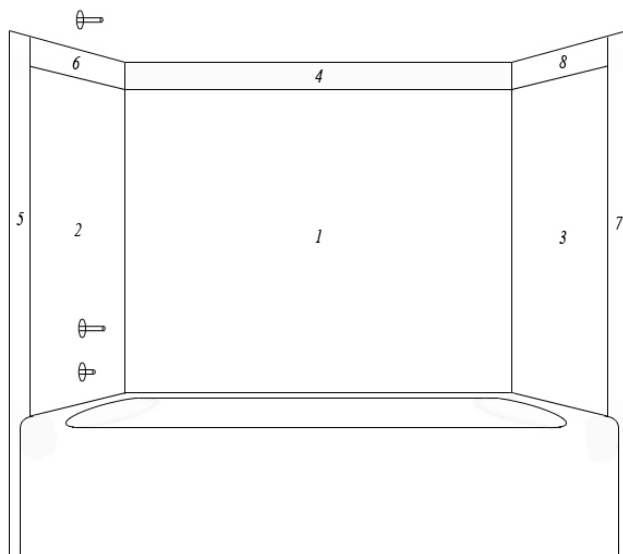

Figure 1.
- To install the remaining vertical leg trim (item 7) and horizontal trim (item 8) (refer to *Figure 1*) on the side opposite the water wall, follow the procedures in "Step 5".